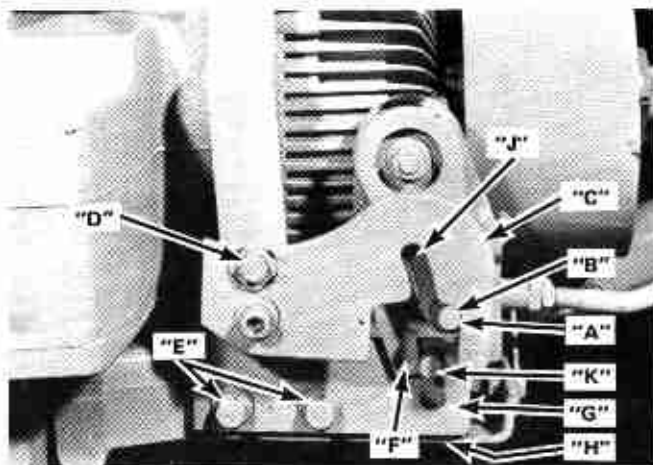

Figure 28
Refer to Figure 28. Start engine and release parking brake. If the tractor creeps "Forward" or "Backward" the "Neutral" position needs adjustment.
1. With the engine off, release parking brake and place travel pedal in full reverse position. Pin "A" Figure 28 should be tight in corner "B" of lever "C" Figure 28. If adjustment is necessary loosen capscrew "D" and adjust lever "C." Securely retighten capscrew "D" after adjustment is achieved.
4. Loosen capscrews "E" Figure 28. Hold neutral arms "F" firmly in contact with pin "K," carefully move plate "G" toward front of tractor, if tractor is creeping forward, and toward rear of tractor if tractor is creeping backward, until Hydrostatic noise ceases and wheels no longer creep.